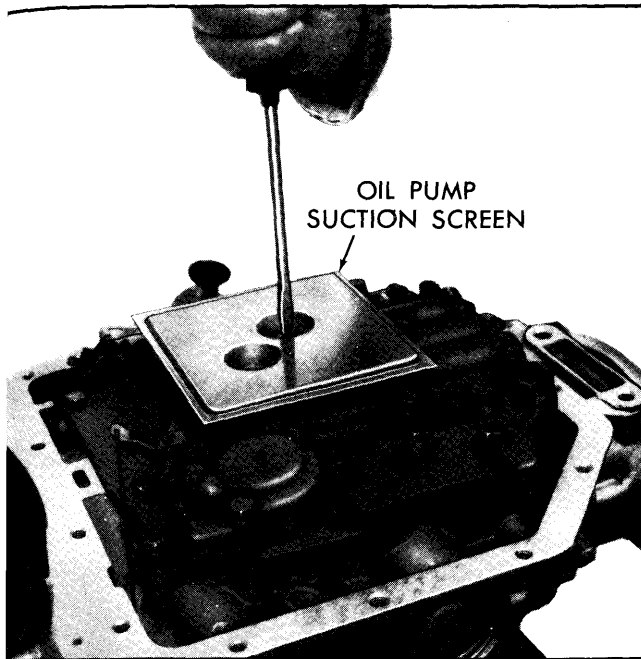

Fig. 7-17—Removing Oil Pump Suction Screen (Strainer) from Valve Body
10. Remove oil pump suction screen (strainer) to valve body attaching screws. (Fig. 7-17)